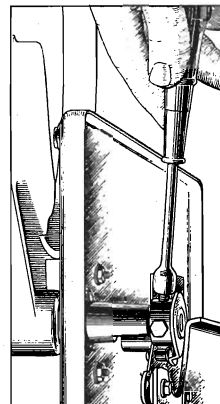

Figure 9—Magazine adjustments
- (b) Improper setting of magazine. The horizontal swing of the magazine should be so adjusted when the mechanism is out of cycle that the outer surface at its nearest point to the nearest side of the turntable spindle is  $\frac{5}{32}$ ". This can be done by loosening the two screws as shown in Figure 9, moving the magazine to its correct position and retightening the screws.
- (b) Loosen the two set screws and remove the magazine lever Figure 9.